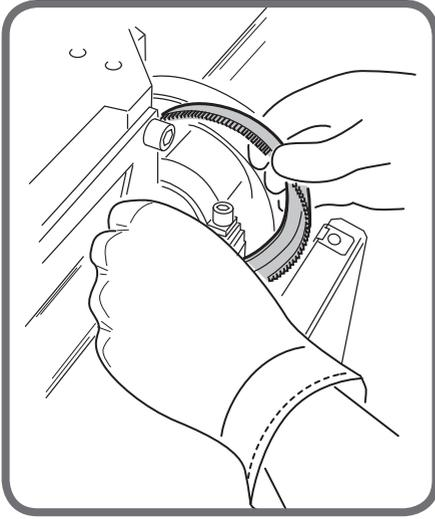

Fig. 2
- unscrew the 4 fixing screws then disassemble the disk (Figs.2 and 3), after using nippers to cut the two junction teeth in line with the "0" notch;